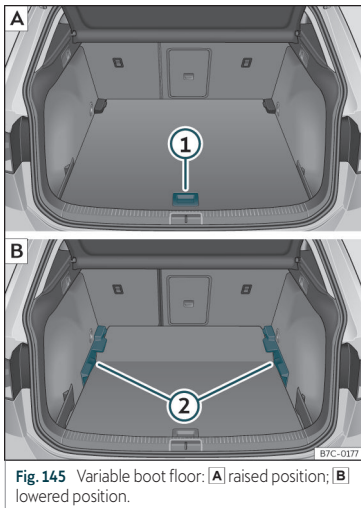

Fig. 145 Variable boot floor: **A**) raised position; **B**) lowered position.
- To move from the low position to the high position, lift the floor using the handle >>> **Fig. 145** ①, and pull it back until the front of the floor has fully passed the supports ②.
- Move the floor forward over the supports as far as the rear seat backrest and then lower the floor with the handle ①.
- To move from the high position to the low position, lift the floor using the handle >>> **Fig. 145** ①, and pull it back until the front of the floor has fully passed the supports ②.
- Now let the front part fall to the floor and slide the floor forwards as far as the rear seat backrest; lower the floor at the same time with the handle ①.
- Lift the variable floor in the high position using handle >>> **Fig. 145** ①, pull it up and push it towards the backrest of the rear seats until the floor folds along the hinge line and the movable part of the floor is resting on itself.
- To move from the high position to the low position, lift the floor using the handle >>> **Fig. 145** ① and pull it back a little.
- Push the variable floor towards the folded rear seats with the handle ① using some downward pressure so that the moving part of the floor is flush with the backs of the rear seats.